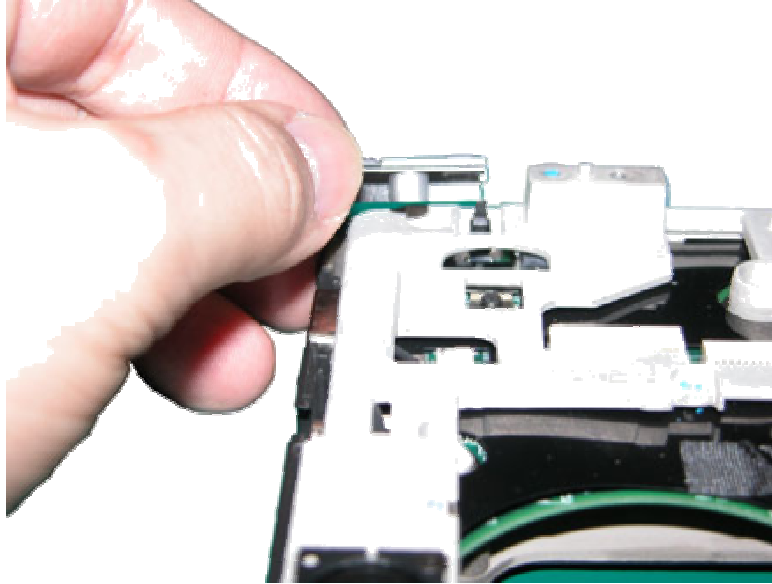

Fig. 29 Removing side cover
1. Remove side cover at both corner of the base unit as shown in Fig. 29